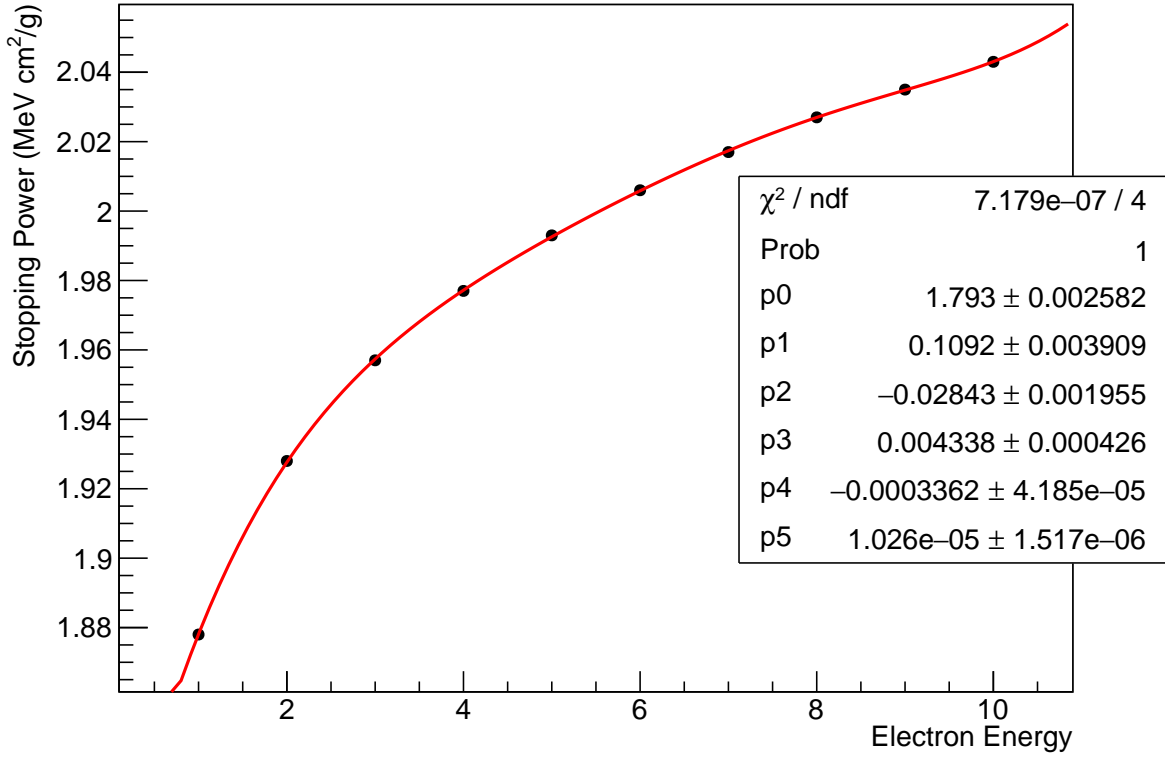

Figure 2: Stopping power for electrons as a function of energy in Fe. Data are from ESTAR and are fit to a 5-degree polynomial.
- α is the collision stopping power for electrons in Fe. It is a function of electron energy and is $2.043 \text{ (MeV cm}^2\text{)/g} = 3.273 \times 10^{-13} \text{ (J cm}^2\text{)/g}$ for a 10 GeV electron using ESTAR. The ESTAR data along with a 5-degree polynomial fit used to calculate α as a function of energy is shown in Fig. 2. Care should be exercised when extrapolating outside the 1-10 GeV range.